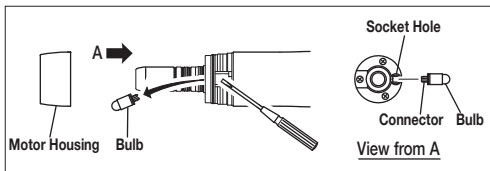

Fig. 14
- 1) Loosen Motor Housing and detach from the motor, and remove the old light bulb using the small pin, like a screw driver. (Fig. 14)